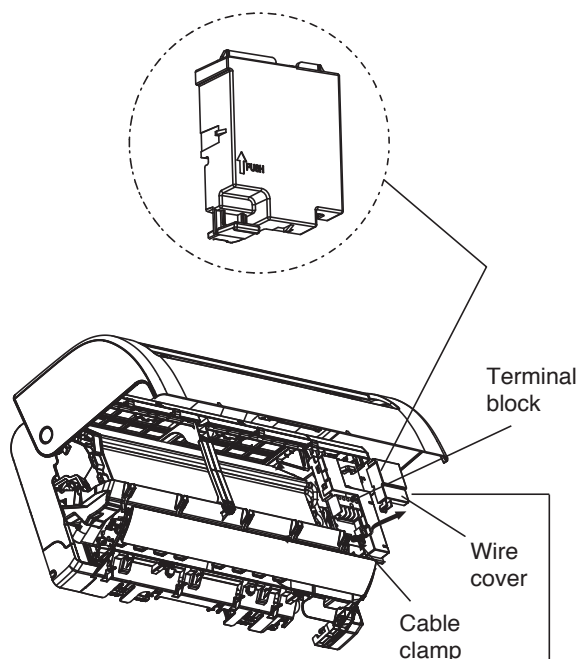

Fig. 3.13
2. Open front panel of the indoor unit by loosening the screws according to picture Fig. 3.13, which provide space for wiring connection.